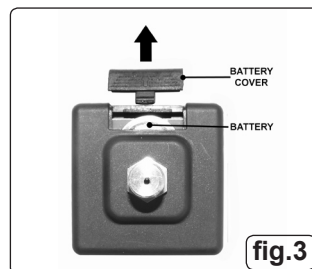

fig.3
4.1.3. Should the battery require replacing, drain the air from the system and unscrew the digital pressure gauge from the regulator. Slide off the battery cover to access the battery (fig.3) and remove the battery. Replace battery, refit the battery cover and screw the digital pressure gauge back on to the regulator.